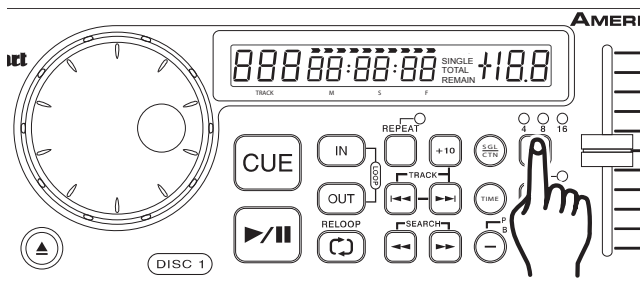

Figure 10
Using the Pitch Slider Percentage Selector (8): You may choose a pitch operating range at any time. To change the operating range be sure the pitch function is turned on, see figure 10. The pitch percentage can be changed between +/-4%, +/-8%, and +/-16%. 4% will allow the least amount of pitch manipulation and 16% will allow the most amount of pitch manipulation. To adjust the different values, press the PITCH ON/OFF BUTTON (13) and Tap on the % BUTTON (8) until your desired value is reached. The L.E.D. of the % BUTTON (8); glowing yellow for 4%, glowing green for 8%, or glowing red for 16%.